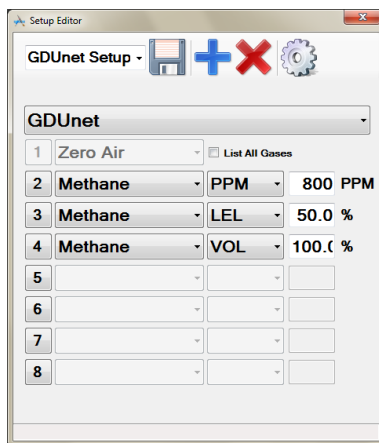

Fig. 6-3 Setup Editor
1. Select the Setup Editor  button. The window illustrated in Fig . 6-3 is displayed.